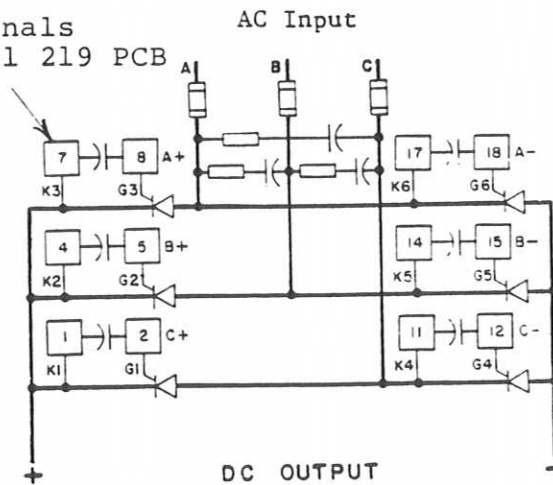

Fig. 2 Thyristor Bridge
5. When the Pulse Amplifier is used with the Reflex Model 218 Pulse Generator and DC thyristor bridge, letter designations A, B, and C are arbitrarily assigned to the AC supply lines as shown in Figure 2 .